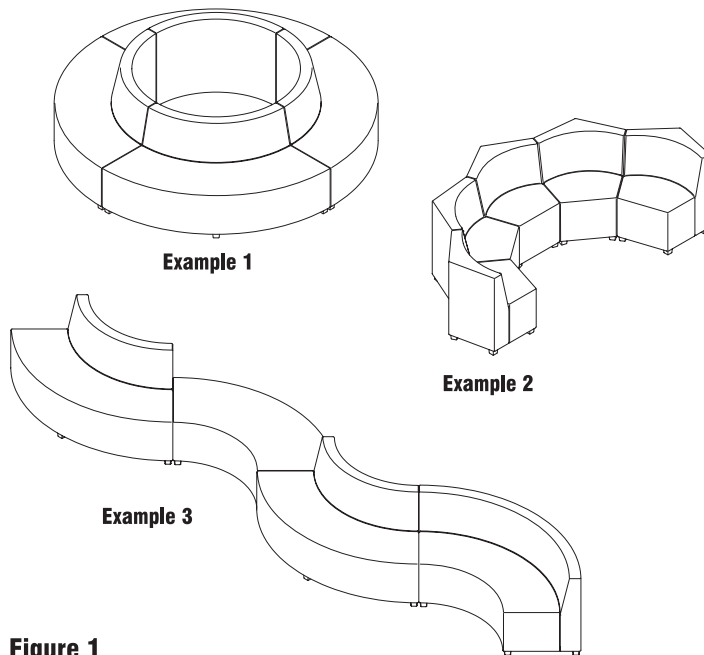

Figure 1
1. Move units together into the intended lounge seating configuration, at or near their final site location. Reference assembled configuration examples shown (Figure 1).